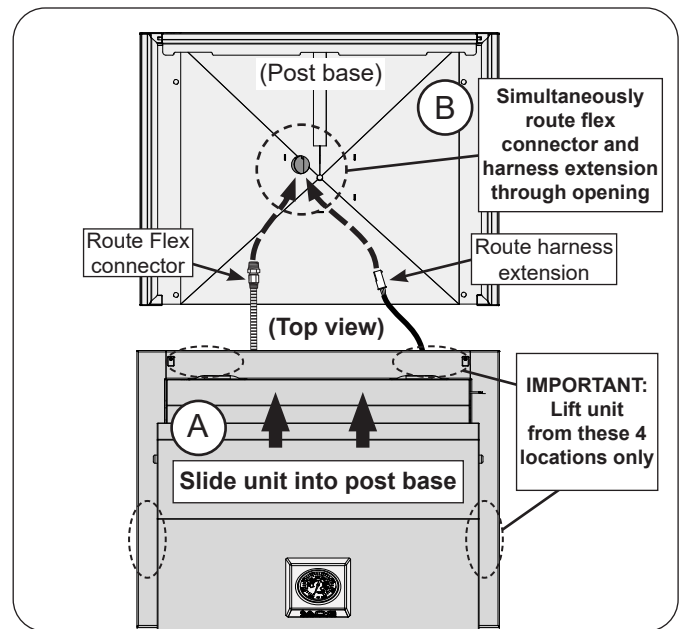

Fig. 19-1 Install grill to post base
- be sure to simultaneously route the flex connector and wire harness extension (if applicable) down through the large circular opening on the upper portion of the post base. See Fig. 19-1, A and B.